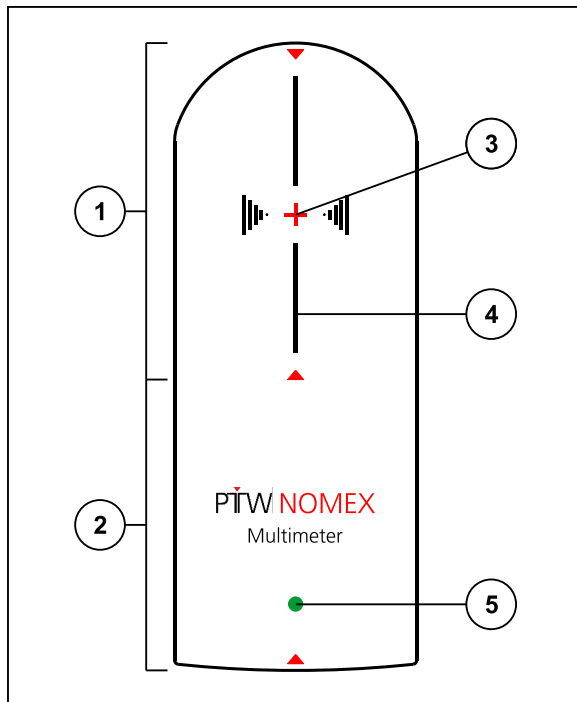

Figure 4: NOMEX multimeter, measurement area
- 1 Radiation measurement area (refer to Figure 4)
(refer to Status LED 5, Figure 4)